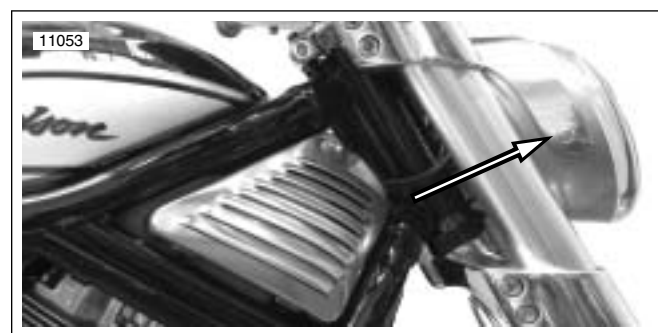

Figure 1-102. Headlamp Alignment Fastener (VRSCA, VRSCR)
1. See Figure 1-102. Loosen fasteners slightly so headlamp is still snug.